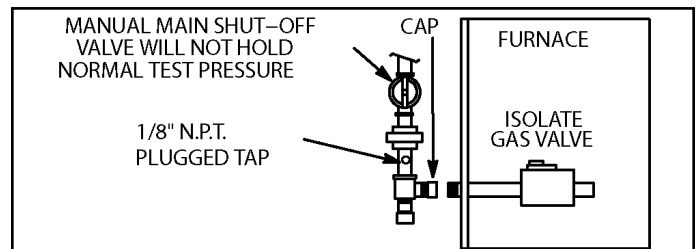

Figure 60.
5. A 1/8" N.P.T. plugged tap or pressure post is located on the gas valve to facilitate test gauge connection. See Figure 60.
When testing pressure of gas lines, gas valve must be disconnected and isolated. See Figure 60. Gas valves can be damaged if subjected to pressures greater than 1/2 psig (3.48 kPa).